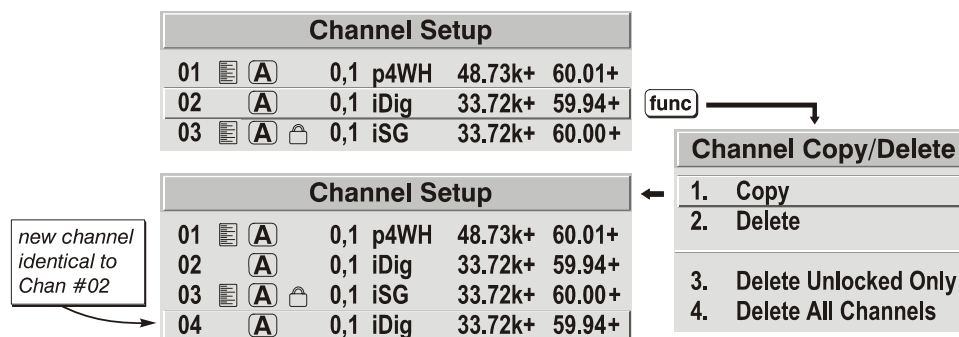

Figure 3.4. Copying A Channel
► **TO COPY A CHANNEL**, highlight the desired channel in the *Channel Setup* menu, then press **Func** to go to the *Channel Copy/Delete* submenu. Select “Copy” and press **←**—a new channel will be created. It is identical to original, which still remains, but it is identified with the next available number from 01-50. If you change your mind and do *not* want to copy the current channel, press **Exit** to cancel and return to the previous menu. Copying channels is a quick method for creating numerous channels, each of which can then be edited and adjusted for a variety of presentations in the future. See Figure 3.4.